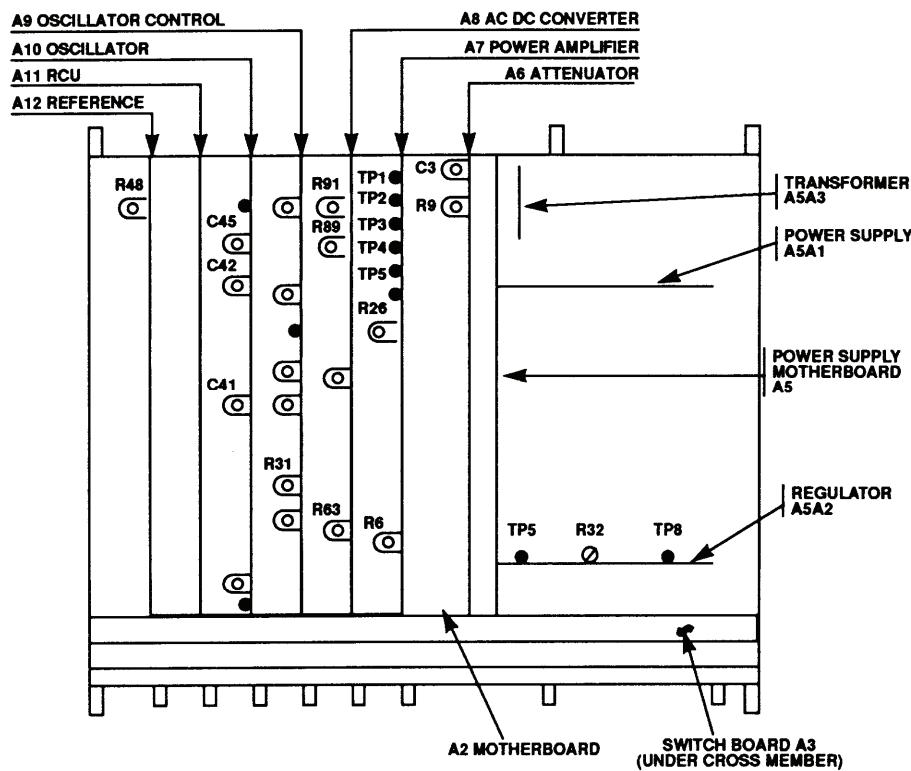

Figure 1. Ac calibrator - adjustment locations.
- (1) Connect true rms voltmeter to **QUADRATURE OUT** (rear of TI).
- (2) Set true rms voltmeter **FUNCTION** pushbutton to **FILT OUT**.
- (3) Connect frequency counter to **COUNTER OUT** (rear of TI).
- (4) Set **FREQUENCY RANGE-Hz** switch to **1 M** and **FREQUENCY** dials to **1.0520 MHz**.
(5) If frequency counter does not indicate between 1.0420 and 1.0620 MHz, adjust A10C41 and A10C45 (fig. 1) in equal amounts in the same direction until frequency counter indicates 1.0520 MHz (R).
(6) If true rms voltmeter does not indicate between 9 and 11 V, adjust A10C41 and A10C45 (fig. 1) in equal amounts in opposite directions until true rms voltmeter indicates 10 V (R).
(7) Set **FREQUENCY RANGE-Hz** switch to **100 K** and **FREQUENCY** dials to **80.00 kHz**.
(8) If frequency counter does not indicate between 79.6 and 80.4 kHz, adjust A10C42 (fig. 1) for a counter indication of 80 kHz (R).
- (1) Connect multimeter between A7TP4 (LO) and A7TP5 (HI) (fig. 1) of the power amplifier board.
- (2) Set **FREQUENCY RANGE-Hz** switch to **100 K** and **FREQUENCY** dials to **100.00 kHz**.
- (3) Set **VOLTAGE RANGE** switch to **100 V** and **VOLTAGE** dials to **10.0000 V**.
- (4) If multimeter does not indicate between 0.34 and 0.36 V dc, adjust A7R26 (fig. 1) for multimeter indication of 0.35 V dc (R).
- (5) Set **FREQUENCY** dials to **50.00 kHz**.
- (6) Measure distortion. Adjust A9R31 (fig. 1) for minimum distortion (R).
- (7) Connect multimeter to **TI OUTPUT** and **SENSE** terminals, using two cables.
- (8) Set **FREQUENCY RANGE-Hz** switch to **1 kHz** and **FREQUENCY** dials to **1.0 K**.
- (9) Set **VOLTAGE RANGE** switch to **10 V**, **VOLTAGE** dials to **10.00000 V** and **SENSE** switch to **EXT**.
- (10) If multimeter does not indicate between $\pm 100 \mu\text{V}$ dc, adjust A7R6 (fig. 1) for a within-tolerance indication (R).
b. Adjustments (Figure 1)